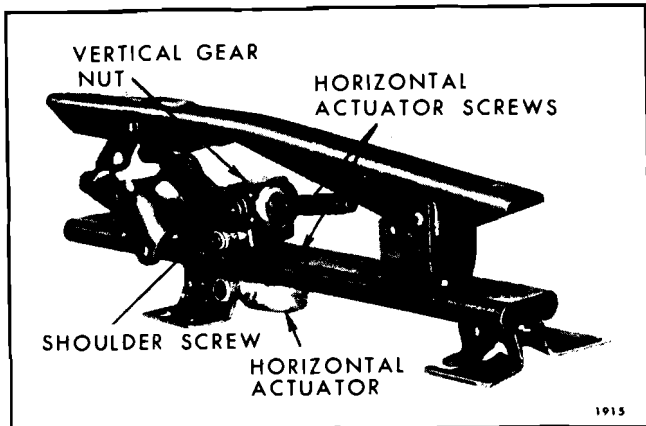

Fig. 15-12—Four-Way Seat Adjuster - "A" Styles
4. Using a clutch type screwdriver or other suitable tool, remove shoulder screws securing linkage to vertical gearnut being replaced (Fig. 15-12).
3. Remove screws securing horizontal actuator assembly to adjuster lower track; then remove actuator from adjuster assembly (Fig. 15-12).